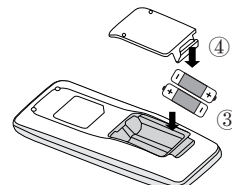

Fig.2
3. Place two 7# (AAA 1.5V) dry batteries, and make sure the position of " + " polar and " - " polar is correct (as shown in Fig 2③).
4. Reinstall the cover (as shown in Fig 2④).